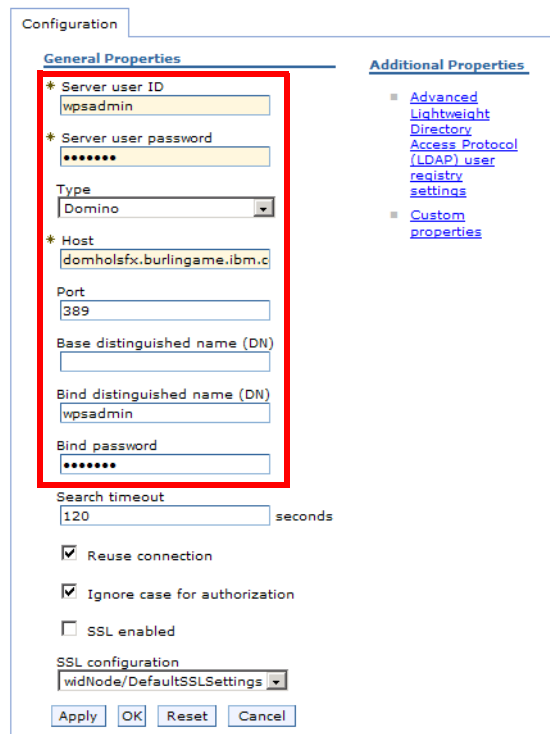

Figure 11-27 LDAP security configuration
- ▶ Enter the values as shown in Figure 11-27.
- ▶ Open the server configuration (see Figure 11-17 on page 273) and set the user ID and password to the same values as in Figure 11-27 on page 281.